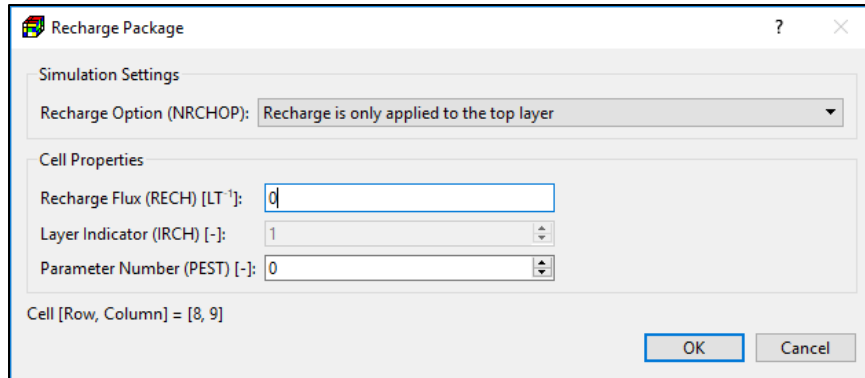

Figure 73. The Recharge Package dialog box
1. **All input methods:** Figure 73 shows the dialog box for specifying cell, vertex, or polygon properties.